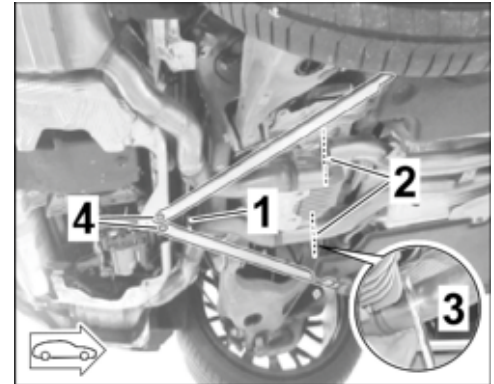

Figure 5
1.3.2 Remove hexagon-head bolt (M8 x 16; 2 x) on strut between the rear silencers (⇒ *Figure 5 -1-*) and remove strut.
1.3.3 Remove hexagon-head bolts M8 (2 x) on rear-end cross strut (⇒ *Figure 5*). ⇒ *Workshop Manual '421319A3 Removing and installing struts (rear end)'*